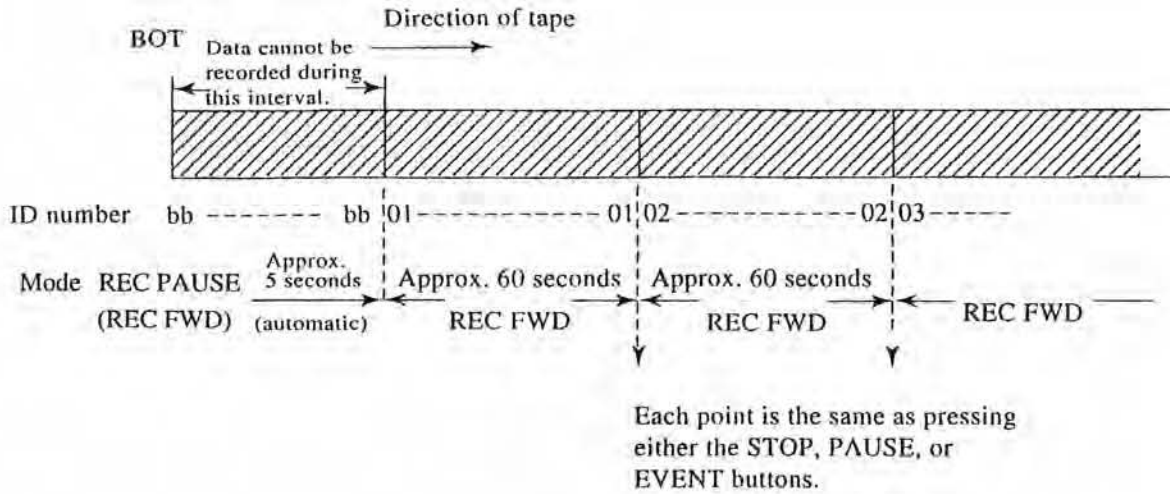

Fig. 1
- c) When recording is performed after automatic recording at BOT ends, the ID number always begins with 01 and is incremented by one at every recording operation unless the tape is advanced over unrecorded tape during recording. (See Fig. 1.)
(To enable a normal search operation to be performed record for approximately 60 seconds or more for each ID.) (See Fig. 1.)
- f) The ID number can be used as a search number for finding the start of each recording portion as well as a recording number or file number. For the ID number to be used as a search number, the recording for that ID number must be approximately 60 seconds or more and there must not be any unrecorded portion on the tape. If the recording is short or discontinuous, the normal search may not be performed. (See Fig. 1.)
- b) To enable the unit to perform normal search operation, as shown in Fig. 1, continuous recording must have been made and one ID number must be recorded about 60 seconds or more.